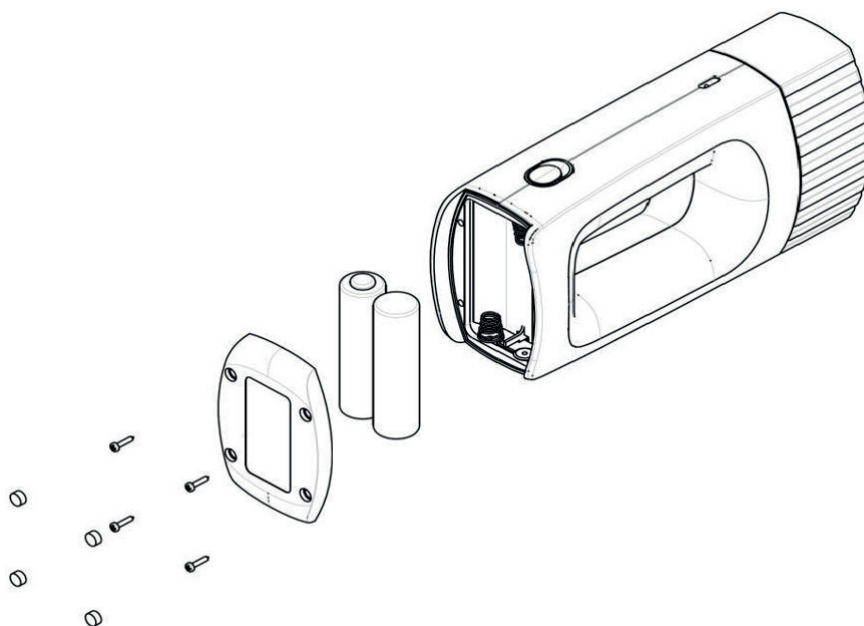

Figure 7: Battery replacement process
- Unscrew four screws in the battery cover at the bottom of the instrument (see Fig. 7).